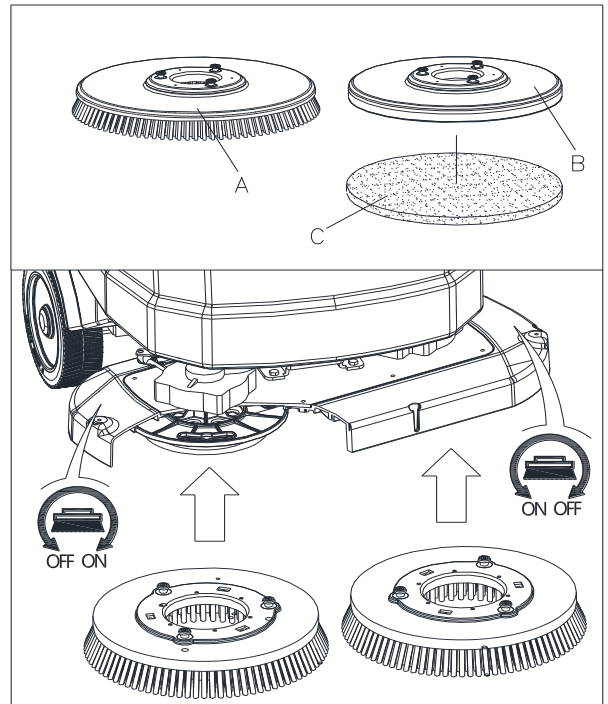

Figure 9
Install either the brush (A, Figure 9) or pad-holder (B and C, Figure 9) according to the type of floor to be cleaned.
2. Turn the speed adjuster (48) to idle by turning it counter-clockwise.
3. Place the brushes (A, Figure 9) or the pad-holder (B and C, Figure 9) under the deck.
4. Use the manual method by turning the brush/pad-holder in the direction opposite to the normal turning direction, and it can be installed. (as shown in Figure 9)